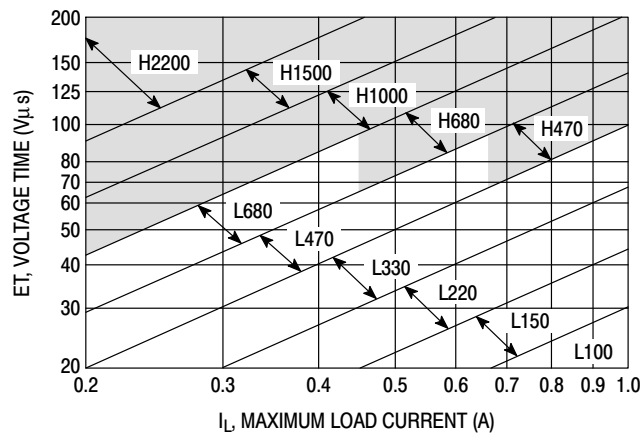

Figure 21. LM2575-Adj
4. Inductor Selection (L₁) A. Use the following formula to calculate the inductor Volt x microsecond [V x μs] constant: $E \times T = (V_{in} - V_{out}) \times \frac{V_{out}}{V_{on}} \times \frac{10^6}{F[\text{Hz}]} [V \times \mu s]$ B. Match the calculated E x T value with the corresponding number on the vertical axis of the Inductor Value Selection Guide shown in Figure 21. This E x T constant is a measure of the energy handling capability of an inductor and is dependent upon the type of core, the core area, the number of turns, and the duty cycle. C. Next step is to identify the inductance region intersected by the E x T value and the maximum load current value on the horizontal axis shown in Figure 21. D. From the inductor code, identify the inductor value. Then select an appropriate inductor from the Table 1 or Table 2. The inductor chosen must be rated for a switching frequency of 52 kHz and for a current rating of $1.15 \times I_{load}$. The inductor current rating can also be determined by calculating the inductor peak current: $I_{p(max)} = I_{Load(max)} + \frac{(V_{in} - V_{out}) t_{on}}{2L}$ where t_{on} is the "on" time of the power switch and $t_{on} = \frac{V_{out}}{V_{in}} \times \frac{1}{f_{osc}}$ For additional information about the inductor, see the inductor section in the "External Components" section of this data sheet.	4. Inductor Selection (L₁) A. Calculate E x T [V x μs] constant: $E \times T = (12 - 8.0) \times \frac{8.0}{12} \times \frac{1000}{52} = 51 [V \times \mu s]$ B. E x T = 51 [V x μs] C. $I_{Load(max)} = 1.0 \text{ A}$ Inductance Region = L220 D. Proper inductor value = 220 μH Choose the inductor from the Table 1 or Table 2.